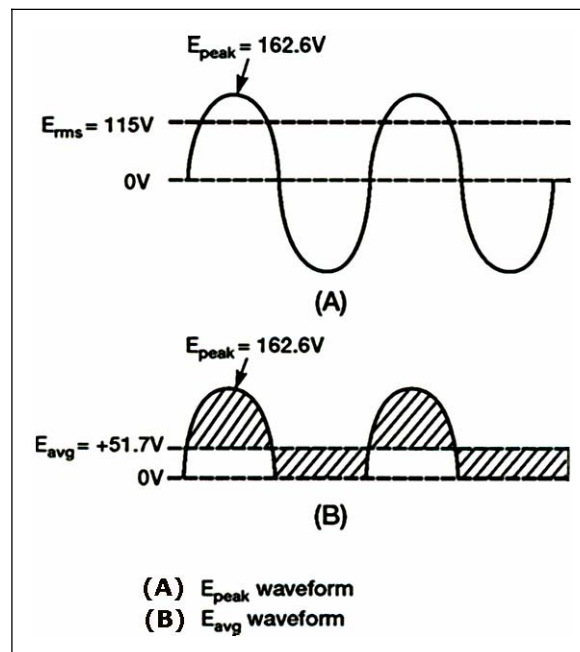

Figure 4-4. Comparison of E_{peak} to E_{avg} in a Half-wave Rectifier
4-10. Figure 4-4, view (A) shows a comparison of the root mean square, peak, and average values of the types of waveforms associated with the half-wave rectifier. AC voltages are normally specified in terms of their RMS values. Therefore, when a 115-volt AC power source is mentioned in this chapter, it is specifying the RMS value of 115 volts AC. Use the following formula to compute peak values:
4-11. The average value of a sine wave is 0 volts. Figure 4-4, view (B) shows how the average voltage changes when the negative portion of the sine wave is clipped off. Since the waveform swings positive but never negative (pass the “zero-volt” reference line), the average voltage is positive. The average voltage (E_{avg}) is determined by the equation: